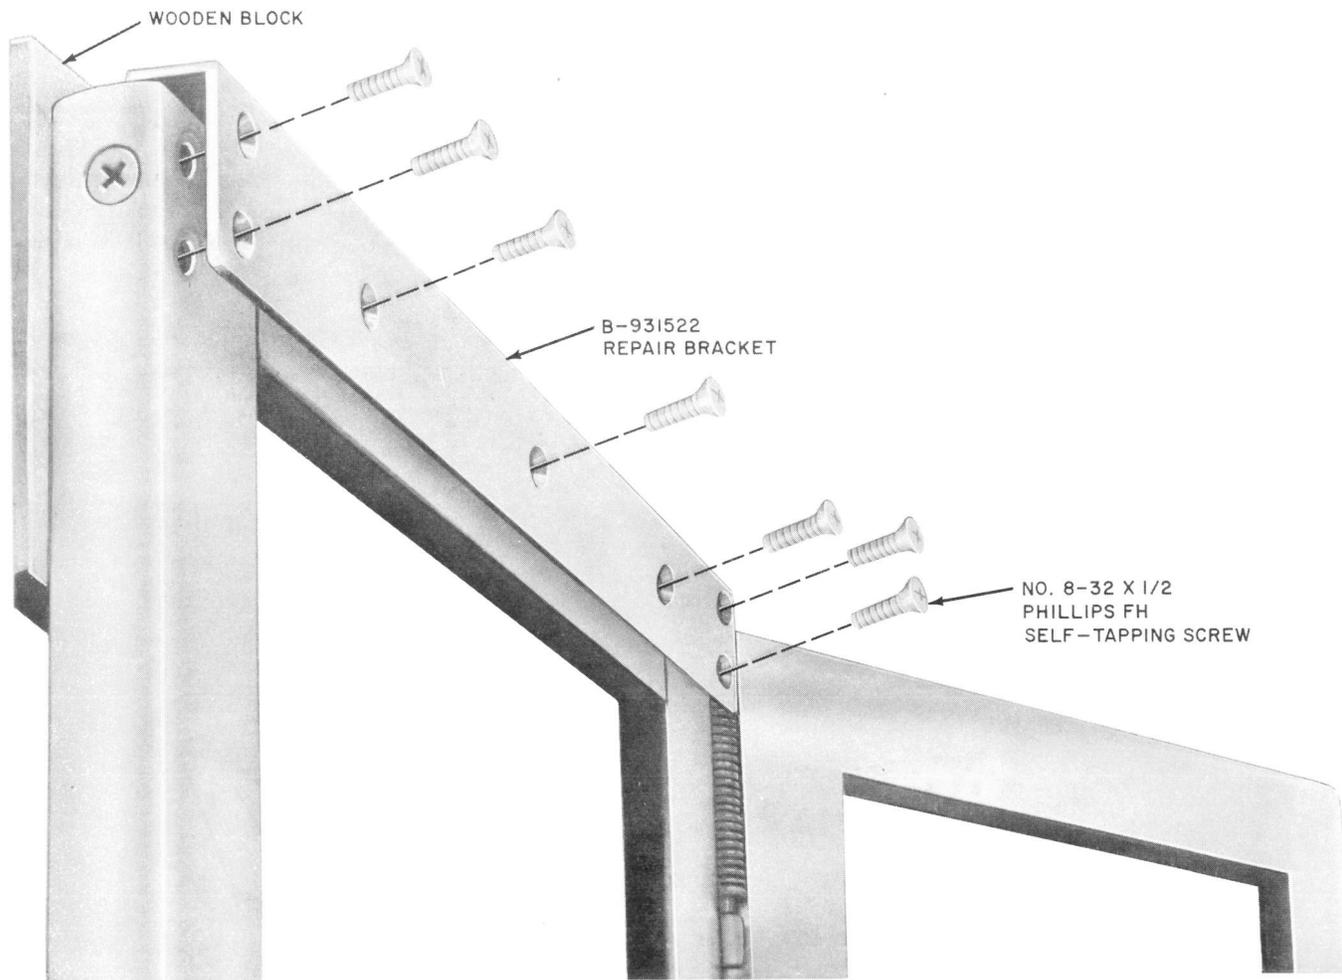

Fig. 4—Installation of Door Repair Bracket
4.04 Replace door sections that have broken mitered joints. Repair solid-type (one piece) sections. (See Fig. 4.) Fracture usually occurs because of misuse, improper adjustment, or because booth is not level. Check the cause and repair as follows: